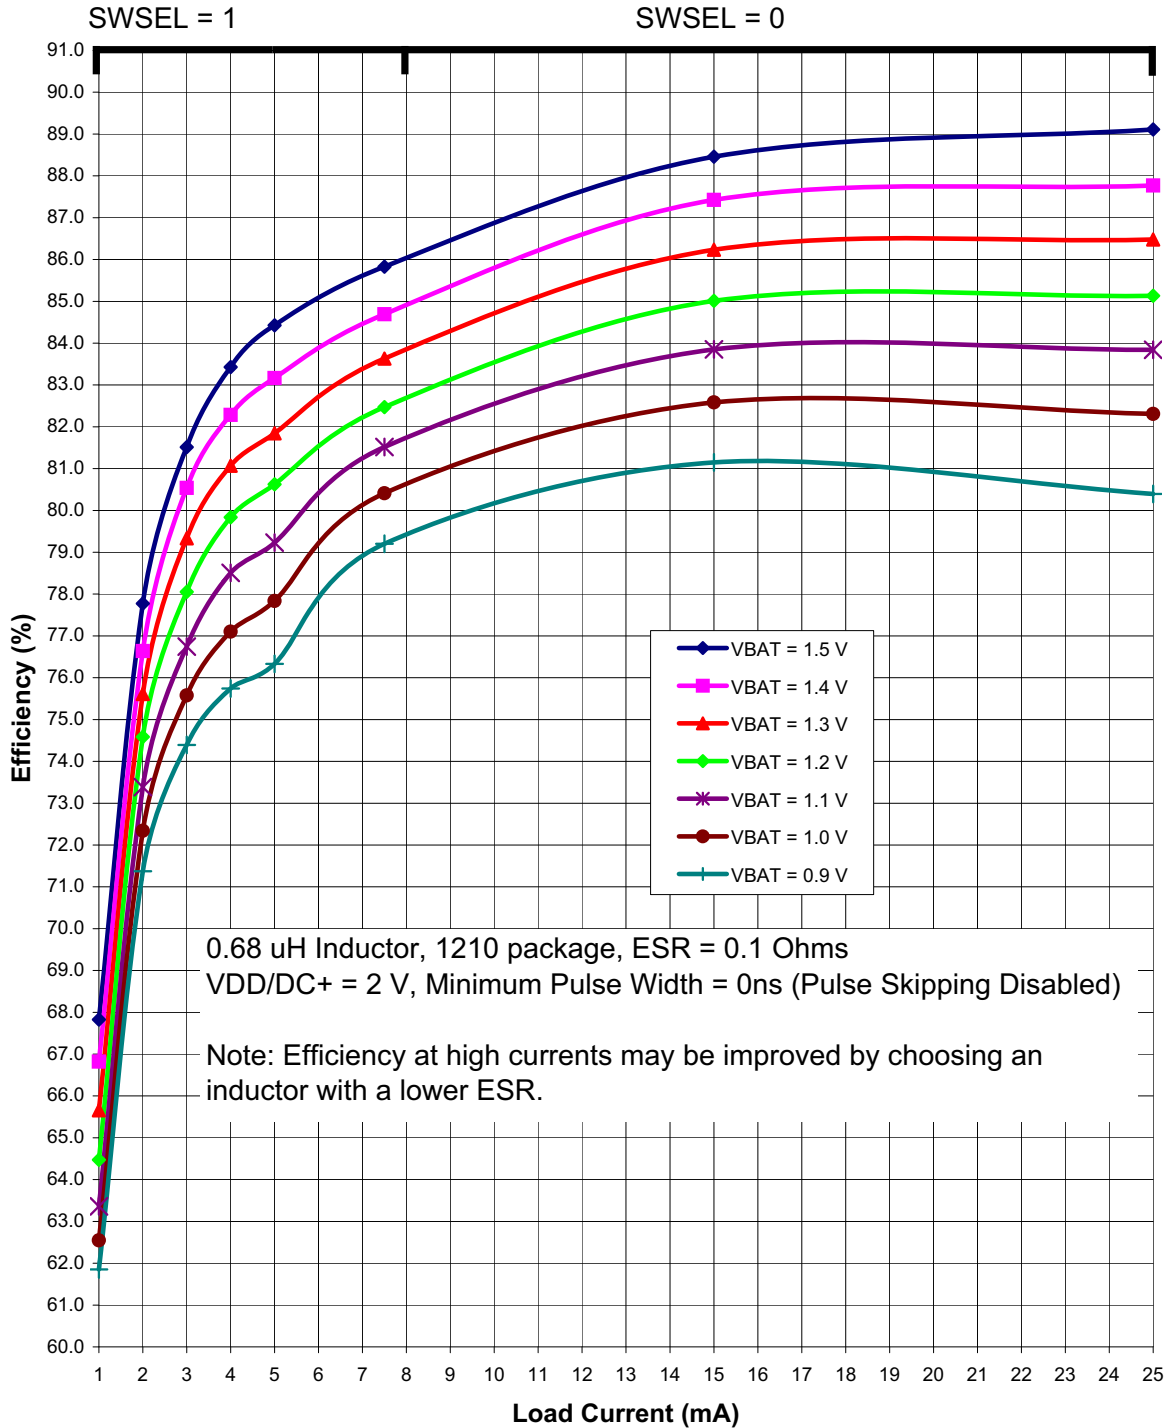
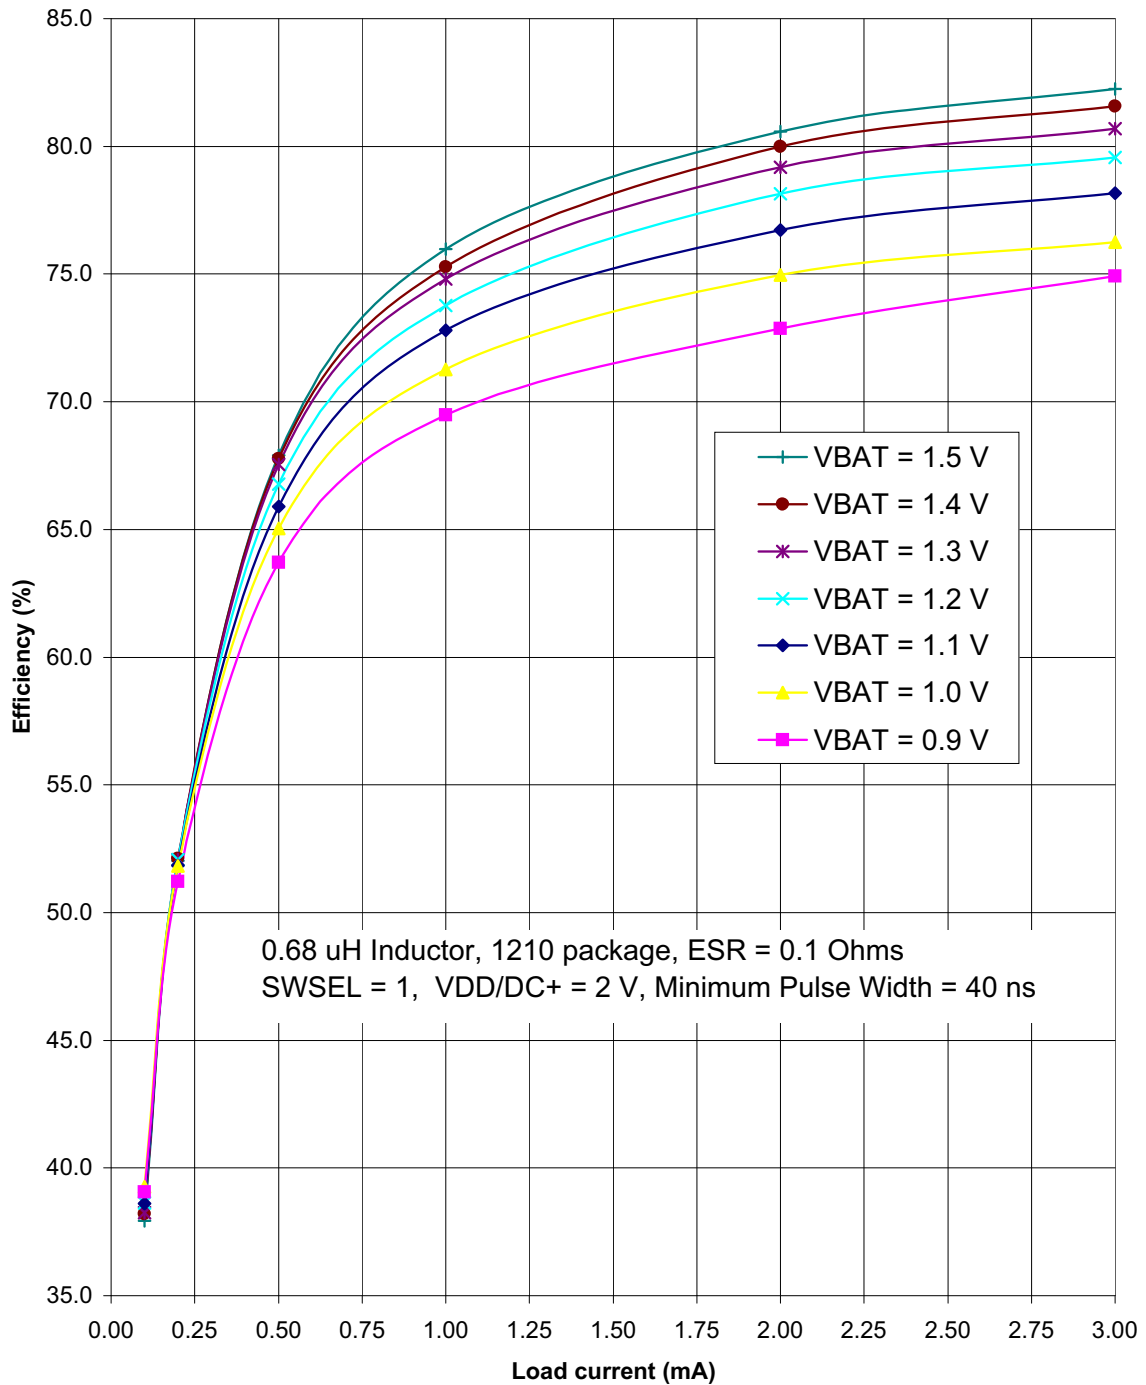

Figure 4.3. Typical DC-DC Converter Efficiency (High Current, VDD/DC+ = 2 V)
Figure 4.5. Typical DC-DC Converter Efficiency (Low Current, VDD/DC+ = 2 V)
<ol style="list-style-type: none"> 1. Based on device characterization data; Not production tested. 2. SYSCLK must be at least 32 kHz to enable debugging. 3. Digital Supply Current depends upon the particular code being executed. The values in this table are obtained with the CPU executing an "sjmp \$" loop, which is the compiled form of a while(1) loop in C. One iteration requires 3 CPU clock cycles, and the Flash memory is read on each cycle. The supply current will vary slightly based on the physical location of the sjmp instruction and the number of Flash address lines that toggle as a result. In the worst case, current can increase by up to 30% if the sjmp loop straddles a 64-byte Flash address boundary (e.g., 0x007F to 0x0080). Real-world code with larger loops and longer linear sequences will have few transitions across the 64-byte address boundaries. 4. Includes oscillator and regulator supply current. 5. IDD can be estimated for frequencies ≤ 14 MHz by simply multiplying the frequency of interest by the frequency sensitivity number for that range, then adding an offset of 90 μA. When using these numbers to estimate I_{DD} for >14 MHz, the estimate should be the current at 25 MHz minus the difference in current indicated by the frequency sensitivity number. For example: $V_{DD} = 3.0$ V; $F = 20$ MHz, $I_{DD} = 4$ mA – $(25 \text{ MHz} - 20 \text{ MHz}) \times 0.102 \text{ mA/MHz} = 3.5$ mA assuming the same oscillator setting. 6. The supply current specifications in Table 4.2 are for two cell mode. The VBAT current in one-cell mode can be estimated using the following equation: $\text{VBAT Current (one-cell mode)} = \frac{\text{Supply Voltage} \times \text{Supply Current (two-cell mode)}}{\text{DC-DC Converter Efficiency} \times \text{VBAT Voltage}}$ <p>The VBAT Voltage is the voltage at the VBAT pin, typically 0.9 to 1.8 V. The Supply Current (two-cell mode) is the data sheet specification for supply current. The Supply Voltage is the voltage at the VDD/DC+ pin, typically 1.8 to 3.3 V (default = 1.9 V). The DC-DC Converter Efficiency can be estimated using Figure 4.3–Figure 4.5.</p> 7. Idle IDD can be estimated by taking the current at 25 MHz minus the difference in current indicated by the frequency sensitivity number. For example: $V_{DD} = 3.0$ V; $F = 5$ MHz, Idle $I_{DD} = 2.1$ mA – $(25 \text{ MHz} - 5 \text{ MHz}) \times 0.079 \text{ mA/MHz} = 0.52$ mA. 8. Internal LFO only available on 'F912 and 'F902 devices. 9. Ability to disable VBAT supply monitor only available on 'F912 and 'F902 devices.